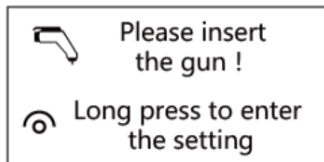

Figure 1
1. Connect the domestic plug of the cable to a standard or reinforced domestic socket. The box powers up and the LED flashes green to indicate normal operation. The display will be as shown in Figure 1.